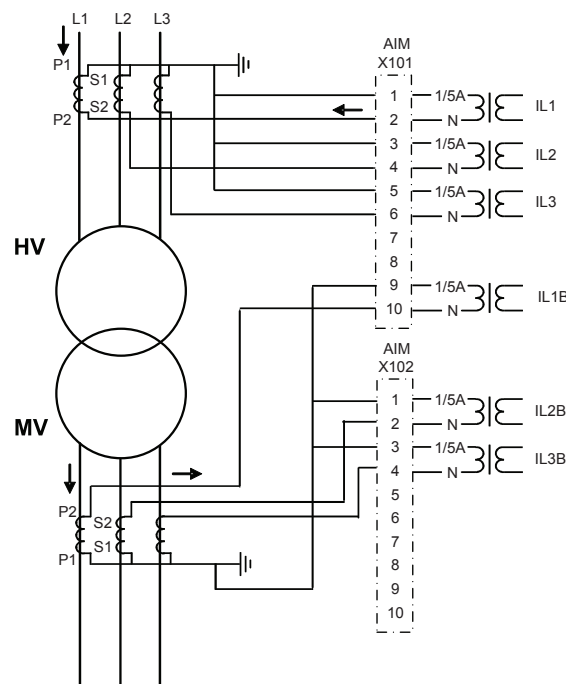
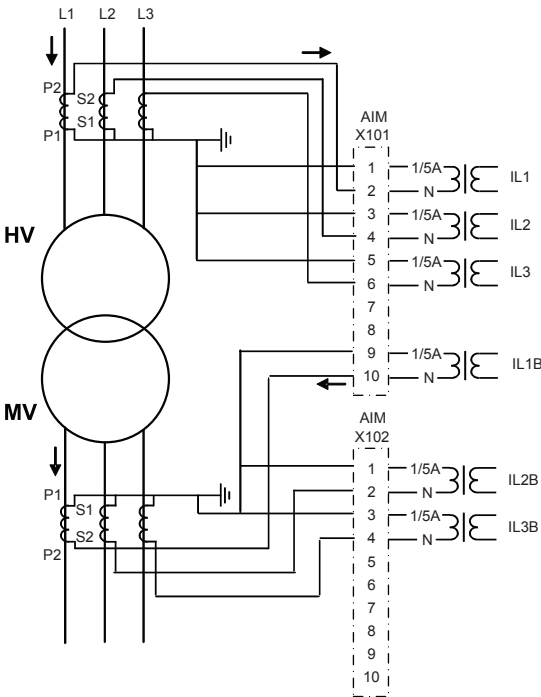

Figure 287: Connection example of current transformers of Type 1
Figure 288: Alternative connection example of current transformers of Type 1
- If the positive directions of the winding 1 and winding 2 IED currents are opposite, the *CT connection type* setting parameter is "Type 1". The connection examples of "Type 1" are as shown in Figure 287 and Figure 288.